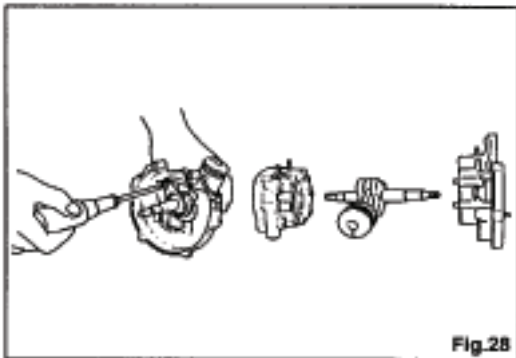

Fig.28
- A. Before separating crankcase, make sure woodruff key is removed, then remove the crankcase screws. To divide crankcase, lightly tap crankshaft with a soft hammer, taking care not to damage the crankcase fitting surface and remove the crankshaft. Fig. 28